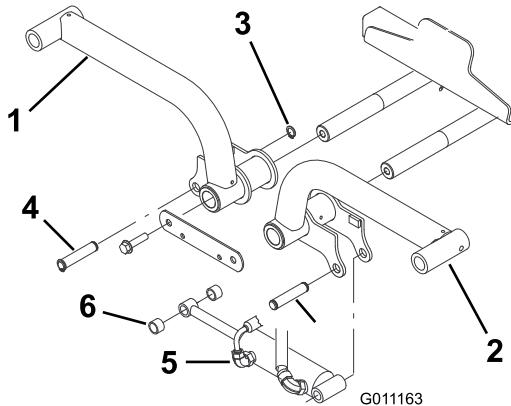

Figure 12
4. Insert the lift arms onto the lift arm pivot shafts (Figure 12), and secure each with a lift arm pivot shaft link and bolts previously removed.